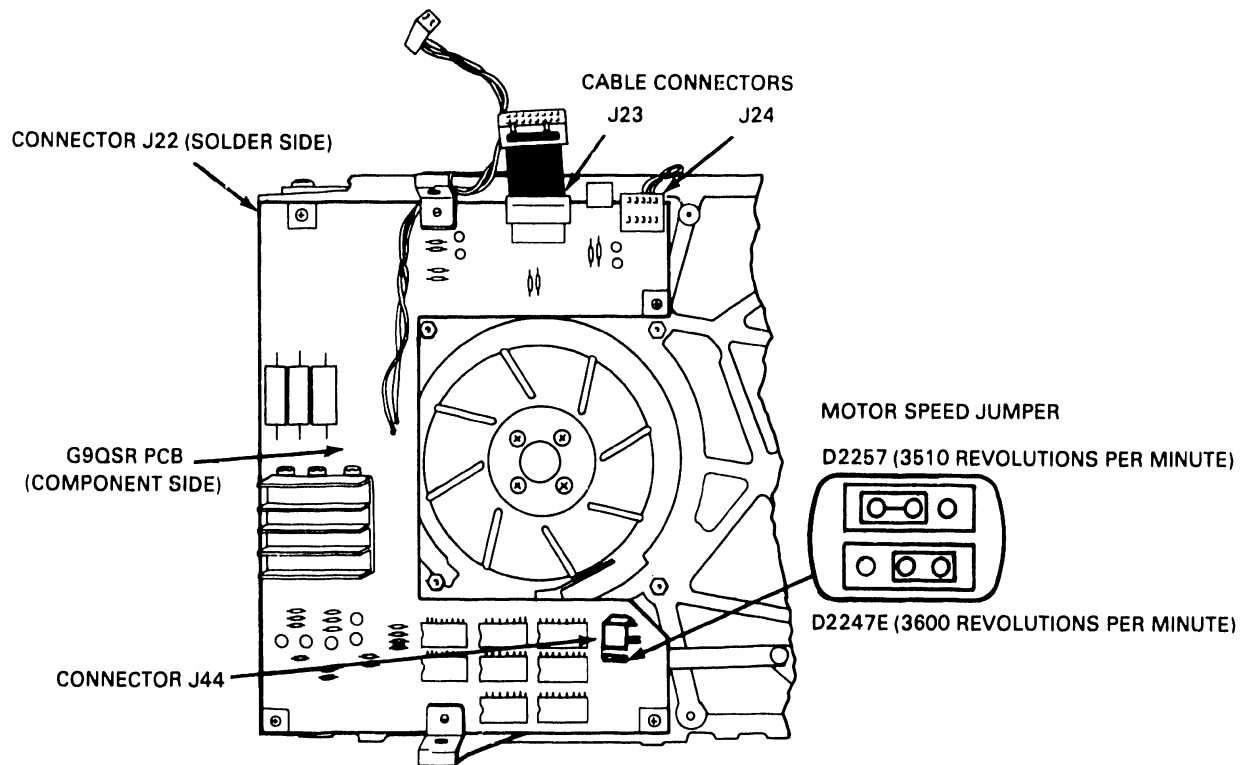

Figure 4-5 G9QSR Cable Connectors
7. Disconnect cable connectors J22, J23, J24, and J44 (see Figure 4-5).
8. Remove the three screws that attach the G9QSR PCB to the drive unit (see Figure 4-5).
When installing a new G9QSR PCB, be sure that the motor speed jumper (see Figure 4-5) is correctly set. Figure 4-5 shows the correct settings for D2247E and D2257 disk drives.